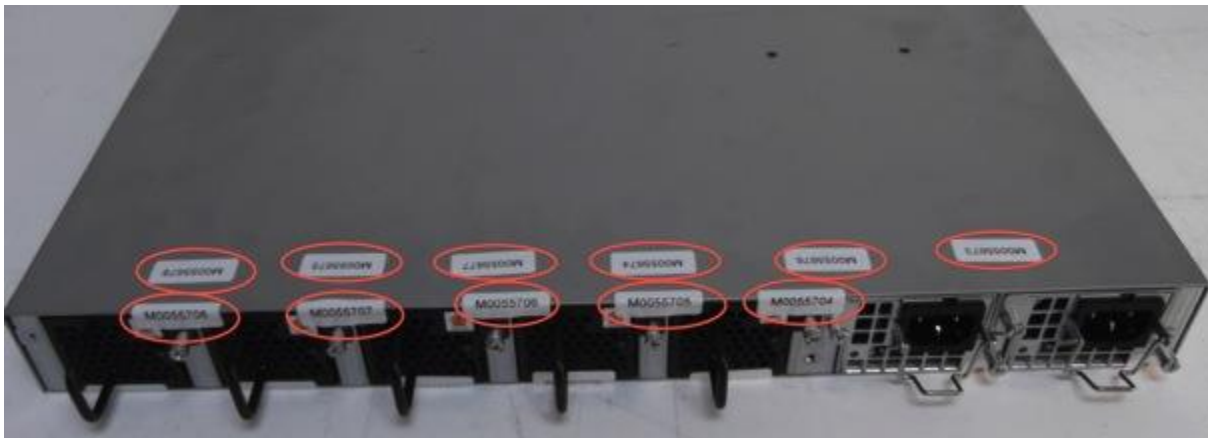

Figure 10 Brocade VDX 6740T non-port-side top cover and power supply seal locations
5. **Rear:** Apply six (6) seals over each of the six screws along the top non-port-side surface of the chassis. Apply five (5) seals, wrapping them across a 90-degree angle from the top of the chassis and along the front of the unit, centering above each fan assembly captive screw. When placed between fan assemblies, the edge of each seal should secure the seam for both fan assemblies as shown in **Figure 10**.